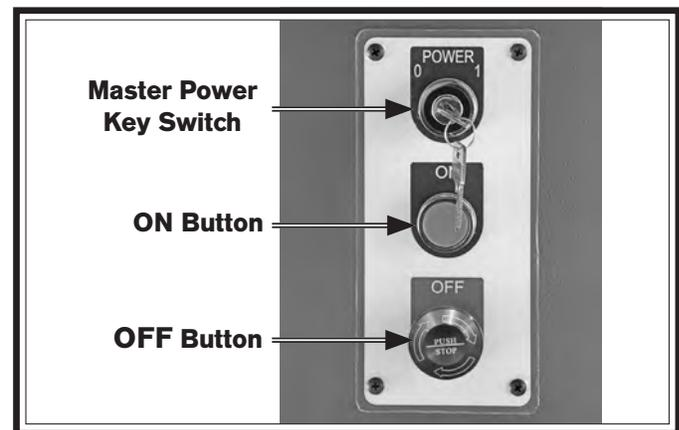

Figure 30. Location of power controls for turning machine ON and OFF.
4. Insert key into Master Power Key Switch, then rotate switch to "1" position (see **Figure 30**). This turns incoming power **ON**.
5. Twist OFF button clockwise until it springs out (see **Figure 30**). This resets switch so machine can start.
6. Press ON button (see **Figure 30**) to turn machine **ON**. Verify motor starts up and runs smoothly without any unusual problems or noises.